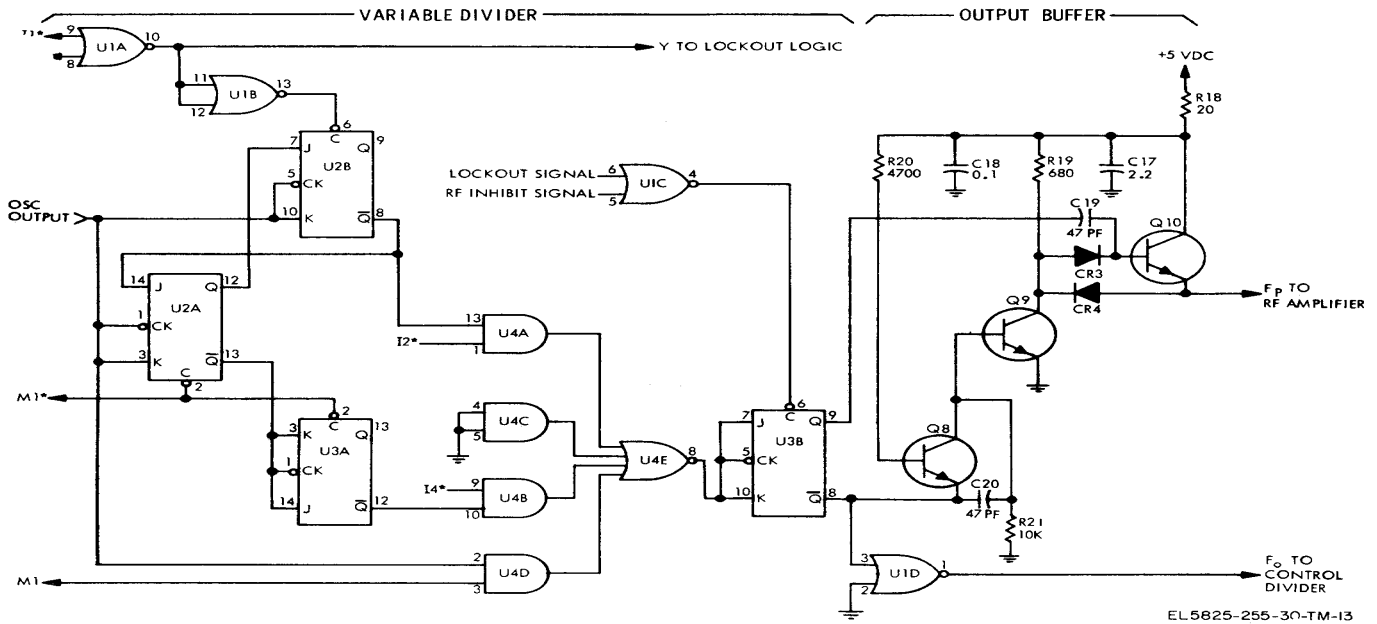

Figure 2-13. Variable Divider Logic and Output Buffer, Functional Schematic Diagram.
b. *Variable Divider* (fig. 2-13 and 2-14). The output of the frequency divider depends on the settings of the frequency select switches. The divider circuit logic produces a different divisor (12, 8, 6, or 2) four frequency ranges as follows: